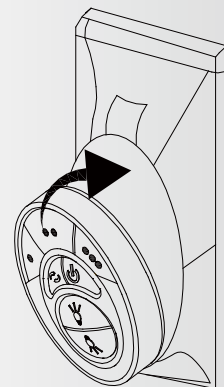

Fig. 27
Step 1: To place the transmitter in the wall plate , put the bottom end in first and then press the top into the wall plate. The transmitter is now held in the wall plate and will function from here . (Fig. 27)